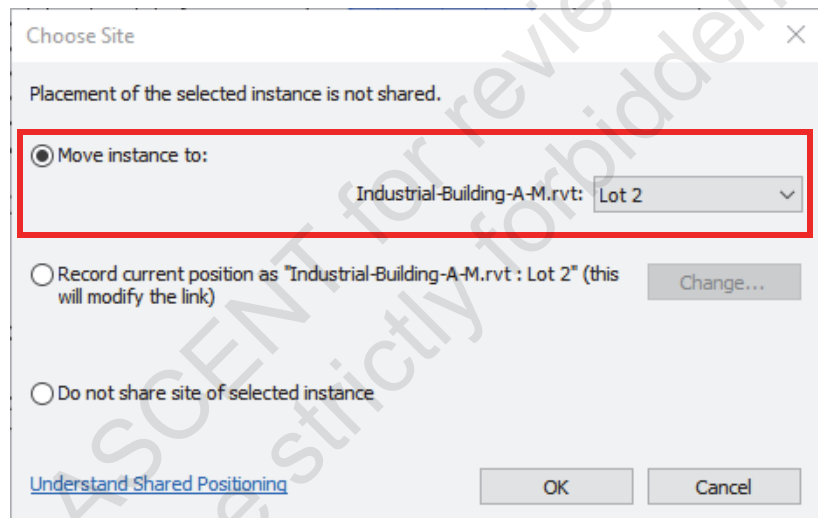

Figure 1–73
5. In the Choose Site dialog box, select **Move instance to:** and set it to **Lot 2**, as shown in Figure 1–73. Click **OK**.
- The link will move into the Lot 2 position, as shown in Figure 1–74.